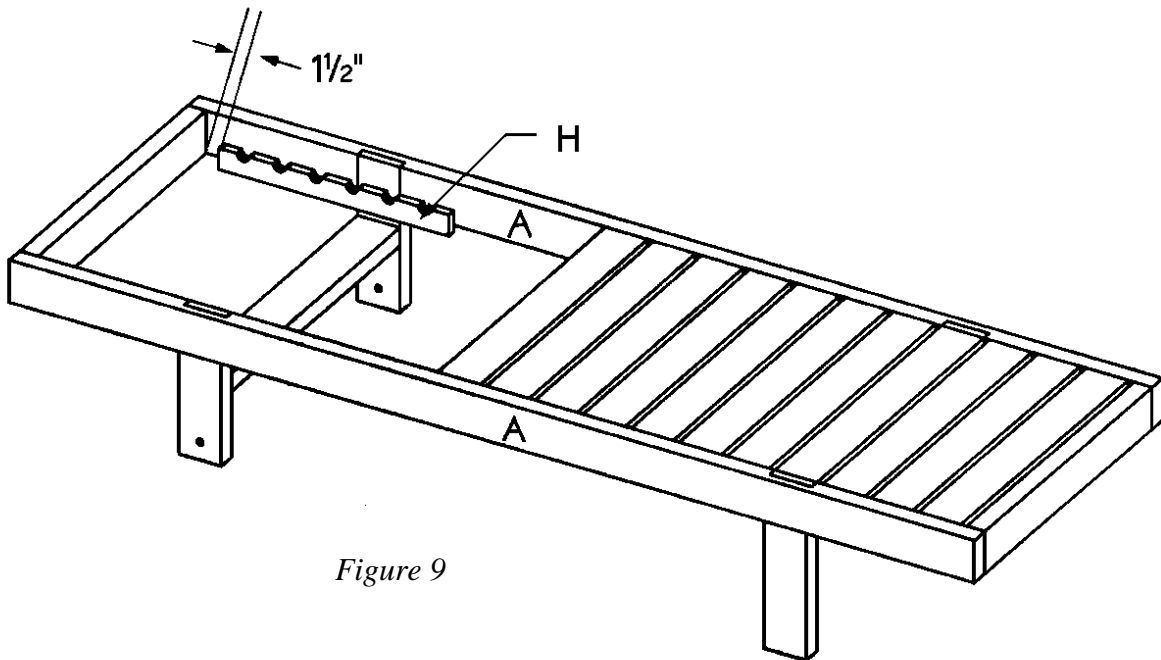

Figure 9
- Attach one half-piece (drilled half-circles up) 2-1/4" from the top of the lower edge of side (A), 1-1/2" from the front/back (B), as shown in *Figure 9*. Note that the half-piece will extend below the lower edge of side (A). Apply glue to the meeting surfaces, and use four evenly spaced 1-1/2"-long screws along the length to attach the inner rack (H) to the side (A). Repeat this procedure to attach the remaining half-price (H) to the opposite side (A).